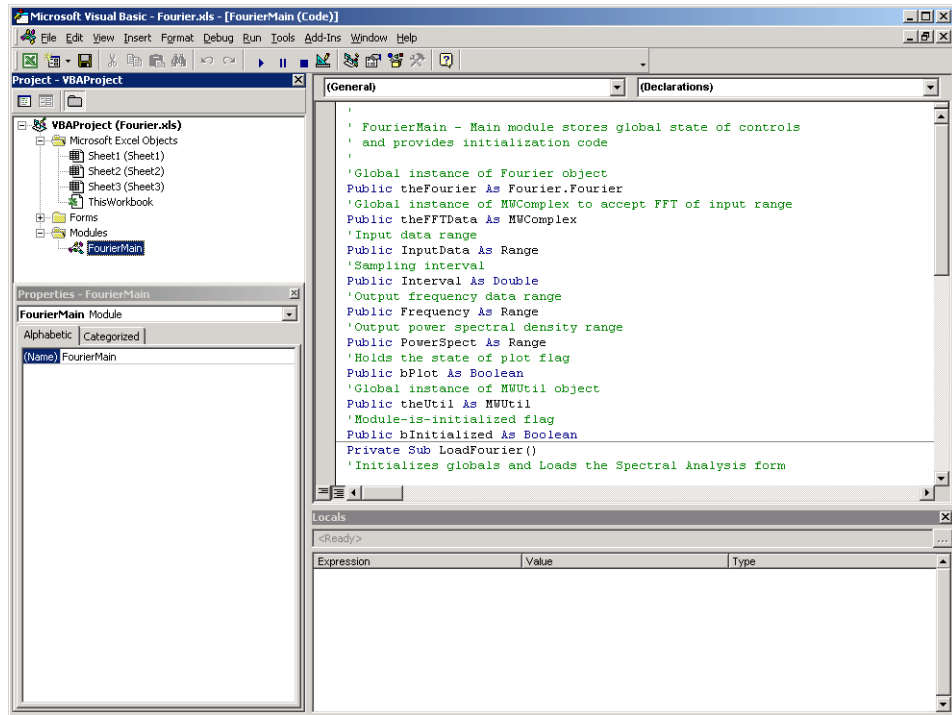

Figure 4-5: VBA Project: Insert->Module
- 2 A new module appears under **Modules** in the **VBA Project**. In the module's property page, set the Name property to `FourierMain`. See Figure 4-5, VBA Project: Insert->Module, on page 4-14.